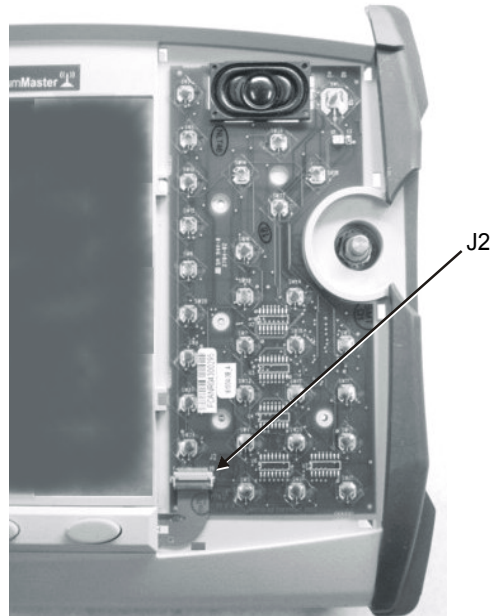

Figure 3-11. Function Key Keypad and Connector J2
1. Disconnect the function key flexible switchpad from connector J2 of the keypad PCB by carefully lifting the locking tab on connector J2 to release the flexible switchpad (Figure 3-11).